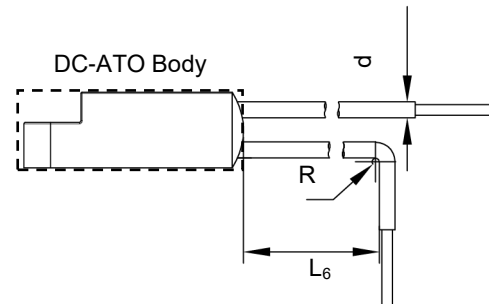

FIGURE RQF-2
2. When bending stranded conductor, please use pincher or similar tools to fix the product as shown in Fig. RQF-2, to avoid damaging the product. The distance L_6 between the bending position and DC-ATCO sealing end should refer to Table RQF-2.
5. Bending radius R : $\geq 15d$, as shown in Figure RQF-2.